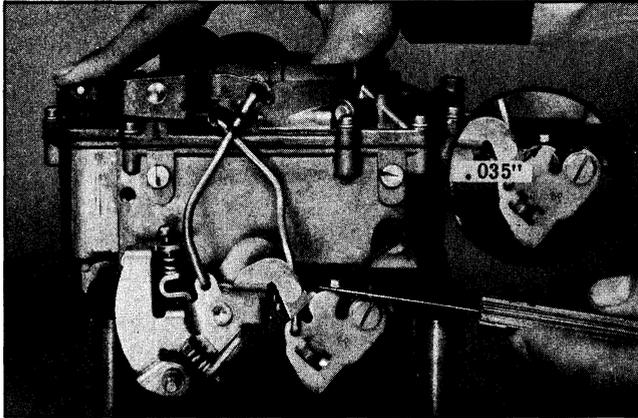

Fig. 8-111 Secondary Throttle Clearance
1. Hold choke valve in the wide open position so the secondary lock-out tang is positioned over the fast idle cam. (See Fig. 8-111)
2. Measure the clearance between the tang and fast idle cam. (See Fig. 8-111) The clearance should be .035".